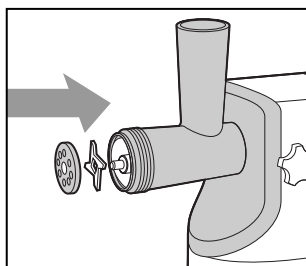

Fig. 3
3. Mount the blade on the feeder screw with the round side facing the feeder screw & the smooth side in contact with the mincer plate (as shown in Fig. 3). NOTE: The meat will not be minced if the blade is mounted with the wrong side facing the screw.
4. Choose and mount the mincer screen plate on to the blade with the two grooves fitting perfectly into place (as shown in Fig. 3).